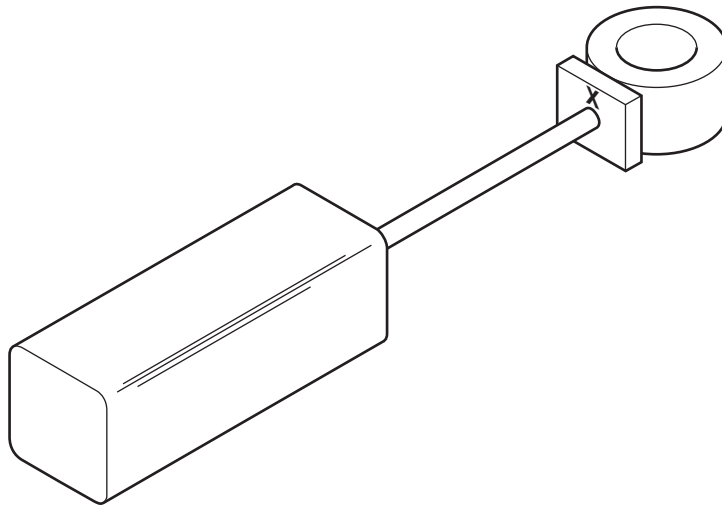

Fig. 5
- (a) Draw a design on Fig. 5 for an attachment that will: